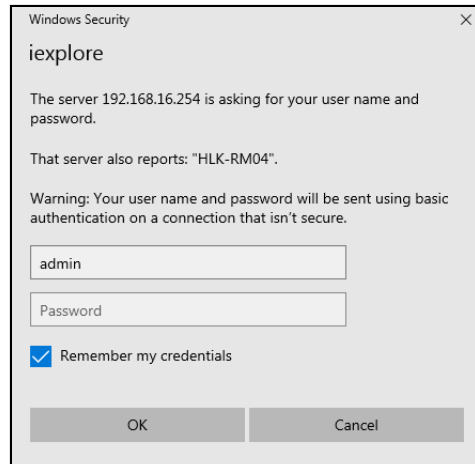

Figure 4-1. Enter Device Password
- The SCT-2200 Wi-Fi will require a password. See Figure 4-1. Enter default device Username: admin and Password: admin. To change device password see Section 4.4.1 on page 23.